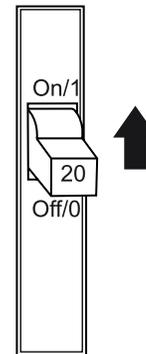

Figure 72. GFCI Circuit Breaker
2. Place a **GFCI circuit breaker** (Figure 72) in the **ON** position.